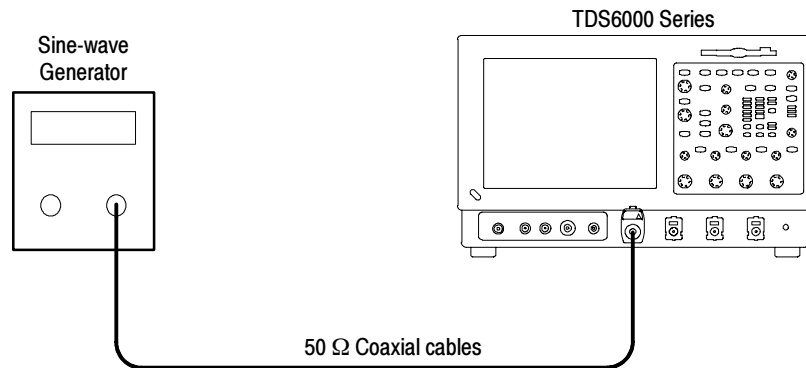

Figure 4-34: Initial test hookup
- a. *Hook Up the test-signal source (see Figure 4-34):*